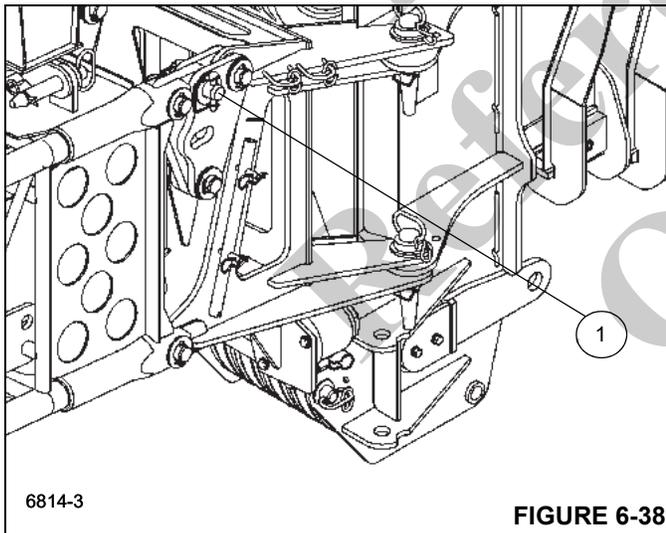

FIGURE 6-38
2. Remove the lock pin, two washers, and offset pin (1), (Figure 6-38).
3. Remove the lock pin, two washers, and offset pin (1), (Figure 6-38).
2. Continue lowering the boom until the top holes align and the lock pin, two washers, and offset pin can be installed (1), (Figure 6-38).